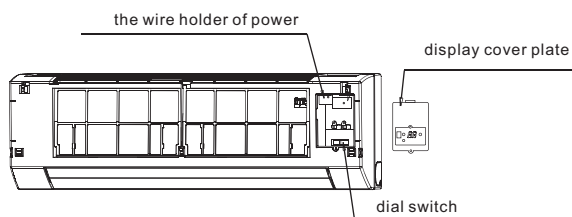

Fig. 7-2
- 2 Individual connect the power cord and communication line. (see Fig. 7-2~4)